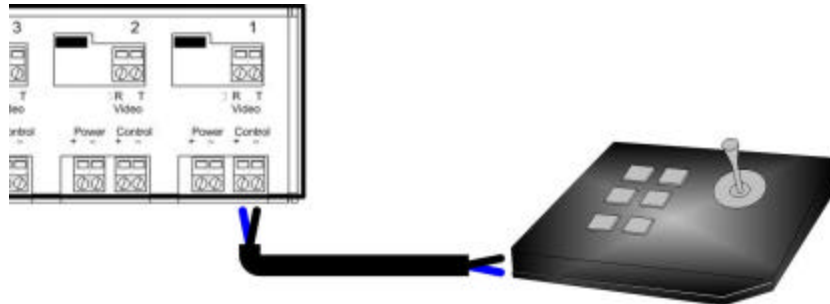

Figure 17: PTZ connection, Model IC563A
11. If PTZ Control is to be transmitted to the camera, verify that the distance between the camera and the hub is within the distance specifications for sending PTZ control over twisted pair. Consult the PTZ equipment vendor for maximum distances. Please ensure that the port switch is set to Pass-Thru Mode (IC452A). When the port switch is set to Pass-Thru Mode (IC452A), one (1) twisted pair is used for PTZ control. For optimum results, it is recommended to use control protocols such as RS-422, RS-485 or Bi-phase. **Due to crosstalk issues, RS-232 is not recommended.**
12. Connect two (2) wires between the PTZ controller and the “Control” terminals on the hub (fig 17).